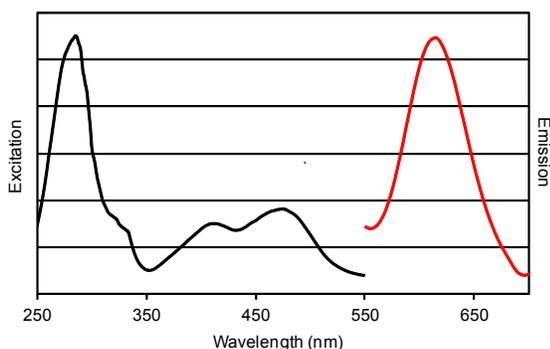

Figure 1. Excitation and emission spectra of Lumitein .
**Spectral Properties:**  $\lambda_{\text{abs}}$  = ~280 nm, ~450 nm (broad);  $\lambda_{\text{em}}$  = 610 nm (See Figure 1)
Lumitein has a UV excitation maximum at around ~280 nm and a broad visible excitation maximum centered around ~450 nm (Figure 1). It emits bright red fluorescence at around ~610 nm. As a result, gels stained with the dye can be viewed using a standard 300 nm UV transilluminator (with ethidium bromide emission filter), a 470 nm blue LED transilluminator, or a laser scanner with a laser line at 450, 473, 488 or 532 nm. For maximum sensitivity, a 490 nm longpass filter should be used. A list of suitable excitation sources and emission filters is shown in Table 2 (below).